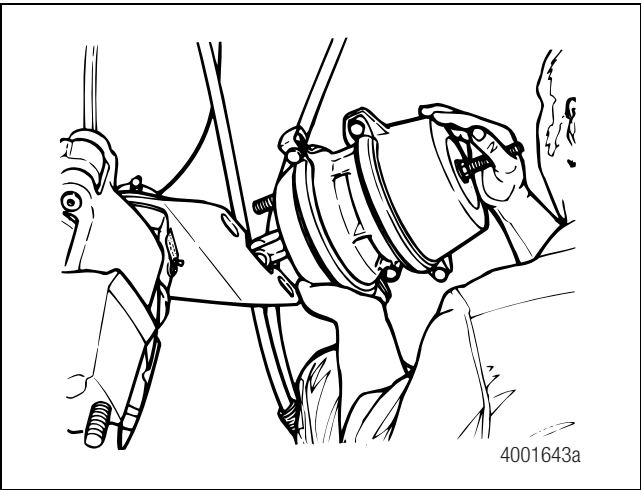
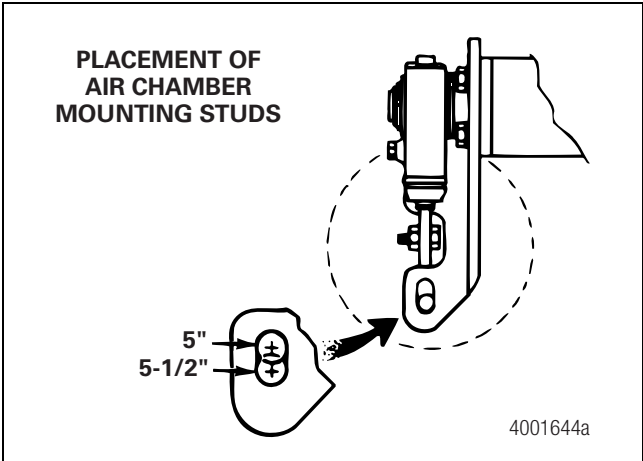

Figure 11.5
Figure 11.6
6. If removed, install the air chamber. Figure 11.5. The position of the studs in the slots in the bracket depends on the length of the slack adjuster. Refer to Figure 11.6 to correctly position the studs.